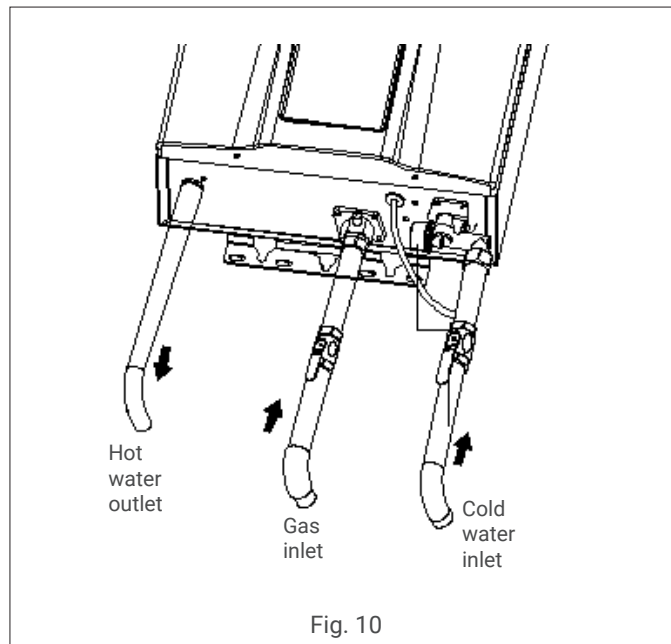

Fig. 10
2. Installation of water and gas pipes (Fig. 10)
2. Remember that water pressure must be sufficient to activate the heater when drawing hot water from the top floor. If the hot and cold connections to the heater are reversed, the heater will not function. 1/2" Copper or brass fittings work best when connected to the connectors. The flexible type connectors will make installation easier and seals to the water valve by means of a union connection with a washer type gasket at the joint. No pipe dope or thread tape is to be used at this joint. Be certain there are no loose particles or dirt in the piping. (Fig. 10).